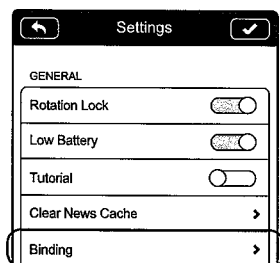
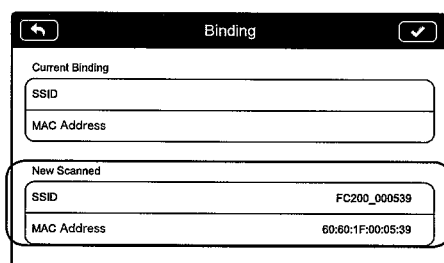
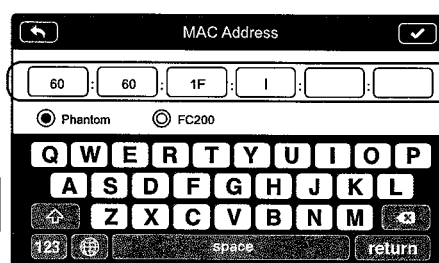

Figure 36
Figure 38
Figure 39
- (1) Power on the camera and Range Extender.
- (2) Approximately 30 seconds later, press the Binding Reset Button on the Range Extender with a pin until the SYSTEM Indicator turns off. The Range Extender will then restart automatically.
- (3) Approximately 30 seconds later, the SYSTEM Indicator will start to blink green, indicating that the Range Extender is ready for binding.
- (4) Enable Wi-Fi on your mobile device then select "Phantom_XXXXXX" the (SSID of your Range Extender) from the Wi-Fi network list.
- (5) Run the DJI VISION App then tap -> Settings -> General -> Binding (Figure 36). Select 'Scan QR Code' to scan the camera QR code on the bottom of aircraft (Figure 37). Get the camera SSID (E.g. FC200_XXXXXX) and the MAC address (Figure 38). You can also skip the scan and enter the camera MAC address directly (Figure 39). The MAC address can be found on the camera label.
- (6) Tap the tick ☒ in the top right corner. The Range Extender should automatically restart. Binding is now complete.